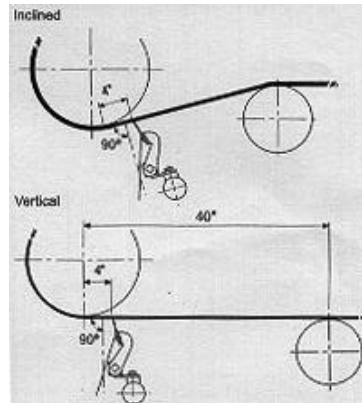

Fig 10
- 4) In Installations where there is no snub drum, the first return roller should be installed approximately 40" from the center of the head drum. This will ensure that the belt is sufficiently supported. (figure 10)